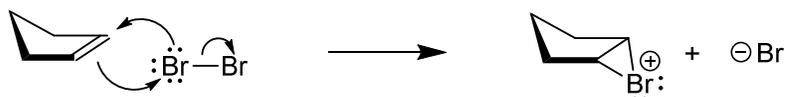

Figure 11-2: The first step of bromine addition involves the formation of a bromonium ring intermediate.
Step 1: Reaction of cyclopentene with bromine to form a bromonium ion intermediate (Figure 11-2).